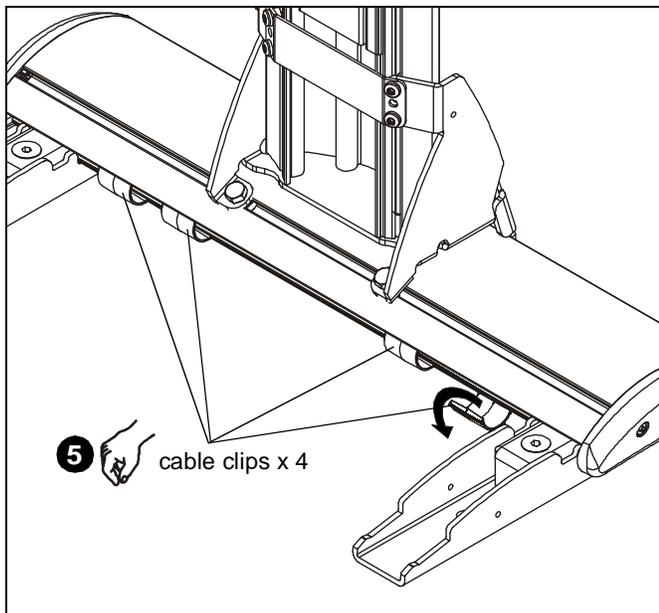

Figure 20
- Open cable clips along bottom edge of wall bracket cross bracket (See Figure 20)